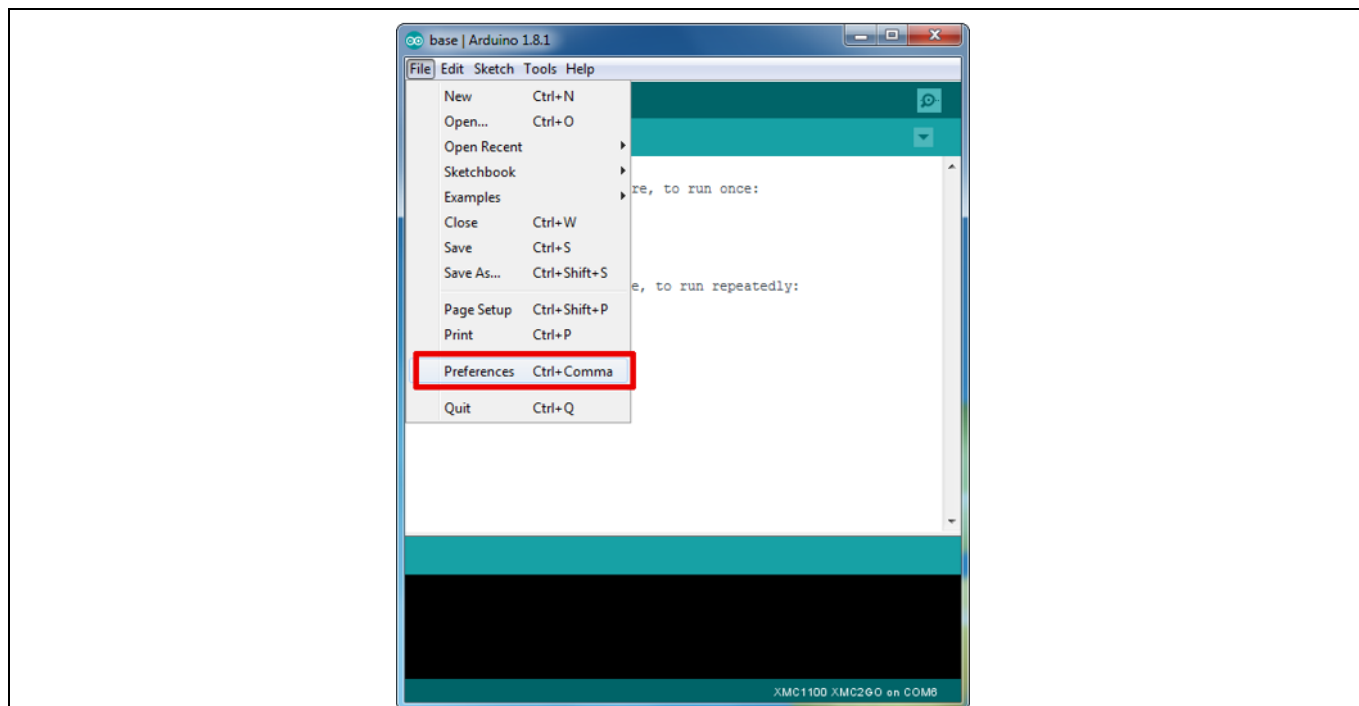

Figure 7 Arduino IDE: File > Preferences
2. Navigate to File > Preferences (Figure 7).